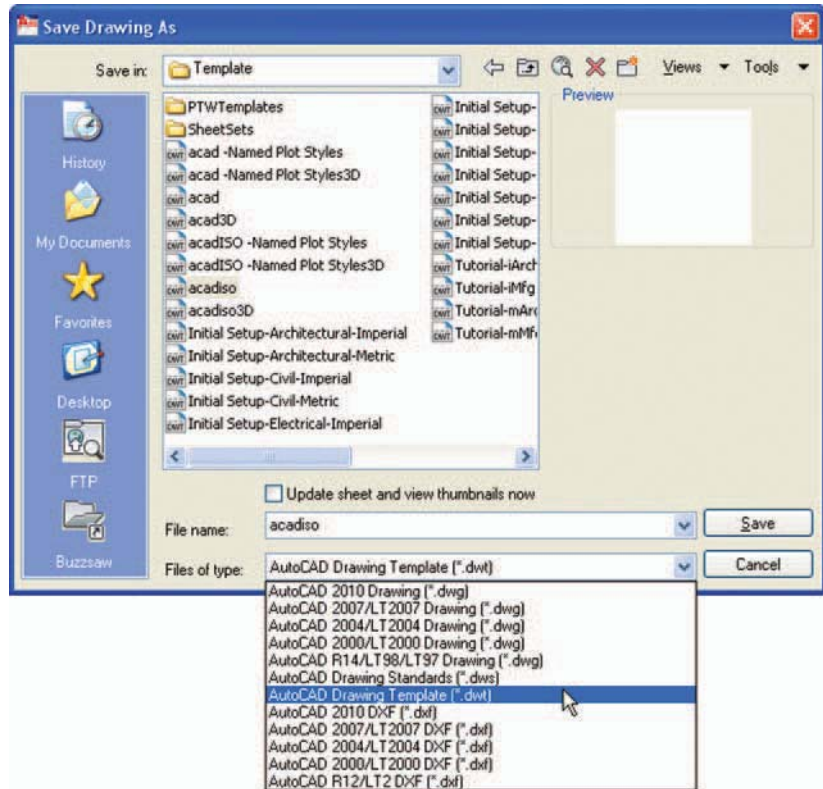

Fig. 4.21 Saving the template to the name `acadiso.dwt`
2. In the **Save Drawing As** dialog which comes on screen (Fig. 4.21), *click* the arrow to the right of the **Files of type** field and in the pop-up list associated with the field *click* on **AutoCAD Drawing Template (*.dwt)**. The list of template files in the **AutoCAD 2010/Template** directory appears in the file list.